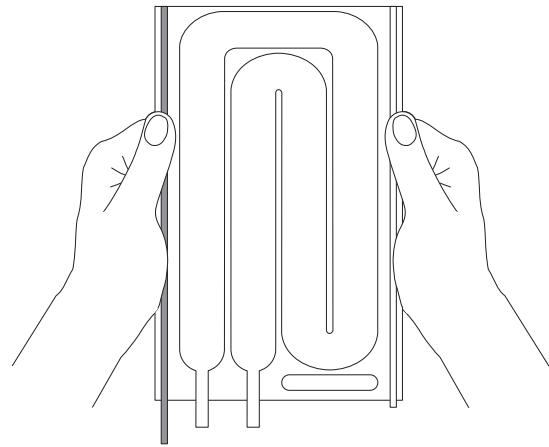

Figure 4—Inserting the cassette
- 1 Grasp each rail (see figure 4). Stretch the flexible cassette slightly and insert the front end of the cassette into the front of the warming unit, with the blue guide rail facing down. Align the rails to each of the slotted openings.